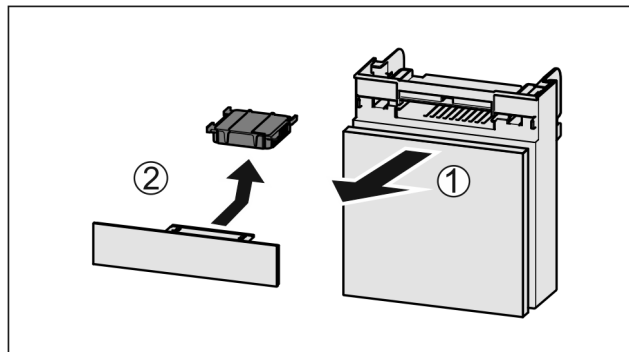

Fig. 86
- Pull out the compartment Fig. 86 (1).
- Remove the carbon filter Fig. 86 (2).